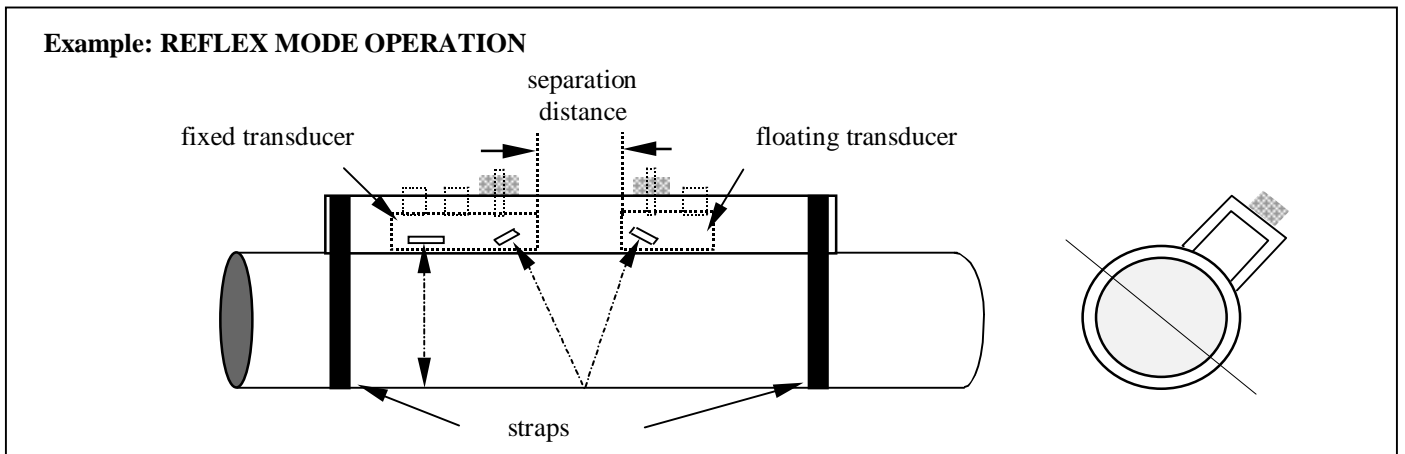

Figure 3
- Attach to the pipe as shown in figure 3 and turning the knurled knob anti-clockwise, screw the fixed transducer to the pipe, making finger tight contact.
- Set the separation distance (see figure 3) by sliding the floating transducer along the scale until the front edge of the block is at the recommended distance. Now turn the knurled knob anti-clockwise, until in finger tight contact with the pipe surface.